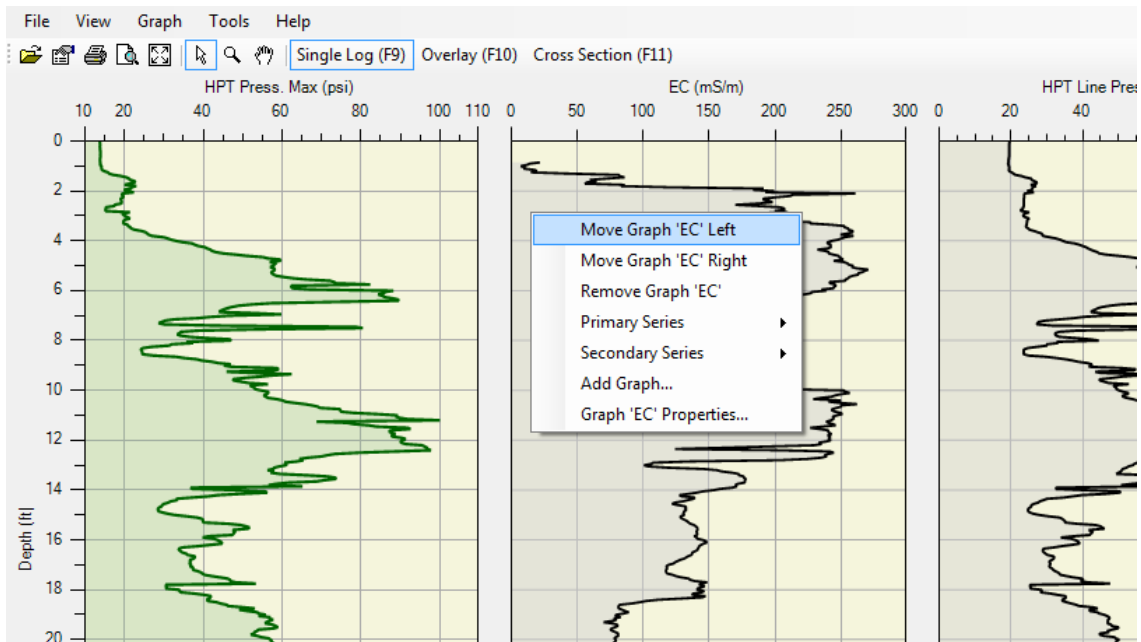

Figure 6: Moving Graphs Left or Right
2. Select *Move Graph* left or right from the top of the list of options (Figure 6).